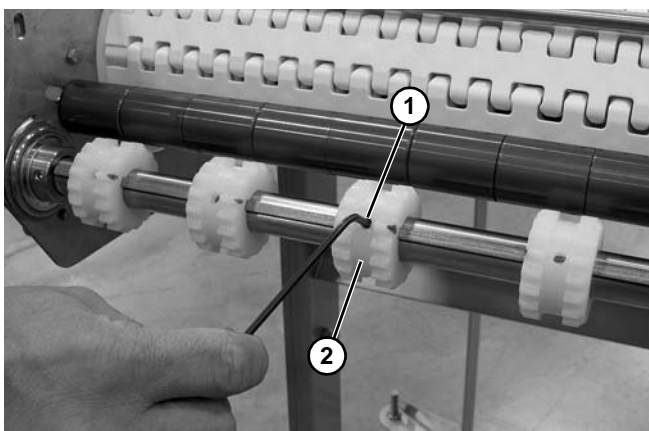

Figure 74
4. Tighten set screw (**Figure 74, item 1**) on drive sprocket (**Figure 74, item 2**).